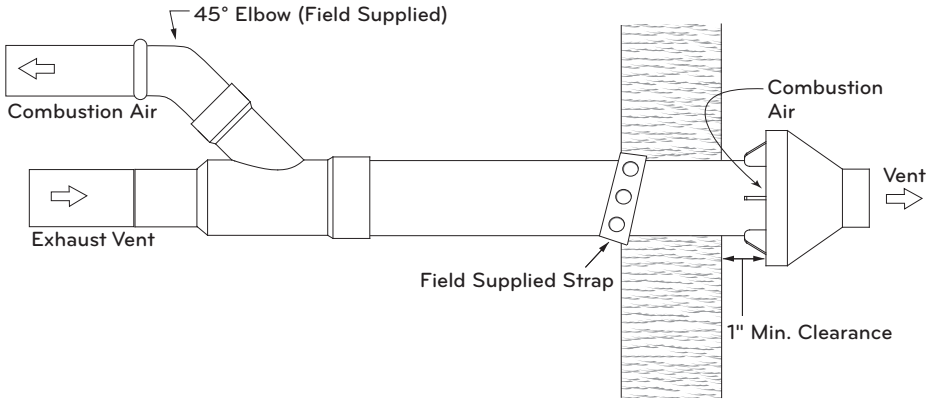

Fig.7-15 Side Wall Installation
- Install cemented Y concentric fitting and pipe assembly through structure's hole (Fig.7-15).
- Secure the assembly to the structure as shown in Fig.7-15 using field supplied metal strapping or equivalent support material.
Ensure termination location clearance as shown in Fig.7-15.